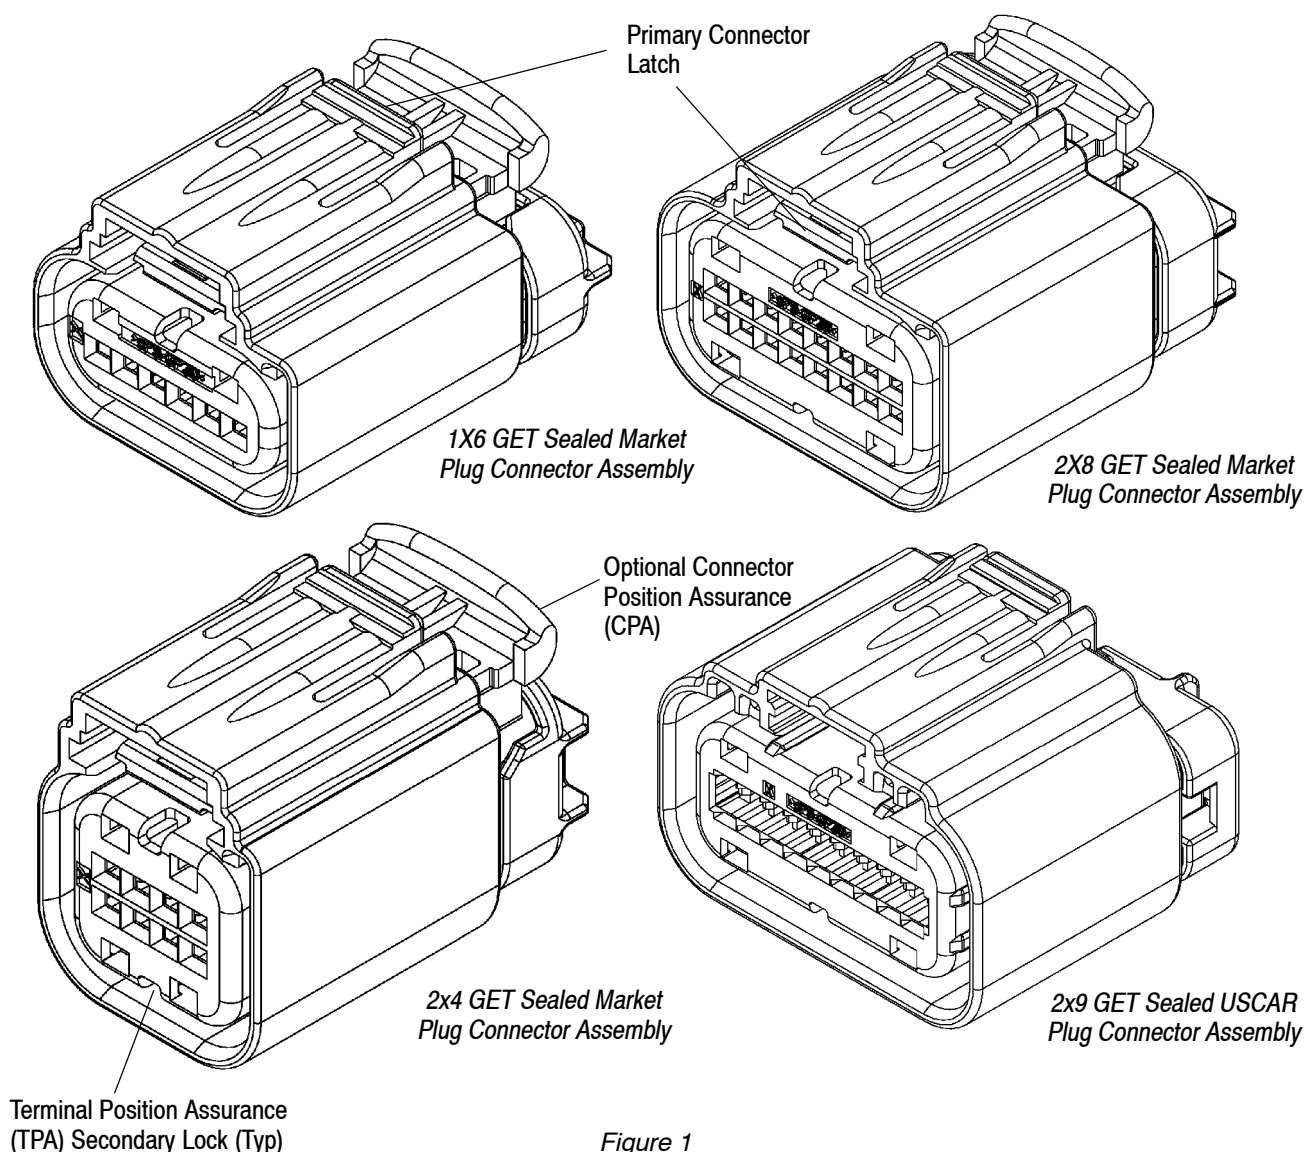

Figure 1
When corresponding with TE Personnel, use the terminology provided in this specification to facilitate your inquiries for information. Basic terms and features of this product are provided in Figure 1.
3.6. Sealed Market Plug Connectors (See Figure 1)